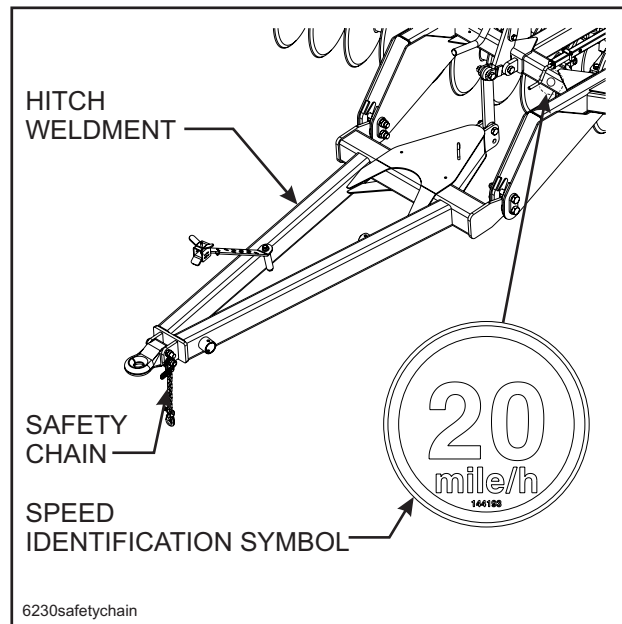

Figure 4-17 Hitch, Speed Identification Symbol, and Safety Chain
4-21.2 The disc should be transported only by tractor required for field operation. The implement weight should not exceed more than 1.5 times the tractor weight. Maximum transport speed for the Disc is 20 mph for the implement and is designated on the speed identification symbol located on the front of the implement (See Figure 4-17).
- Attach the safety chain to the tractor drawbar (See Figure 4-17). Provide only enough slack in the chain for turning. Do not use an intermediate chain support as the attaching point for the chain on the tractor. Do not pull the implement by the safety chain.